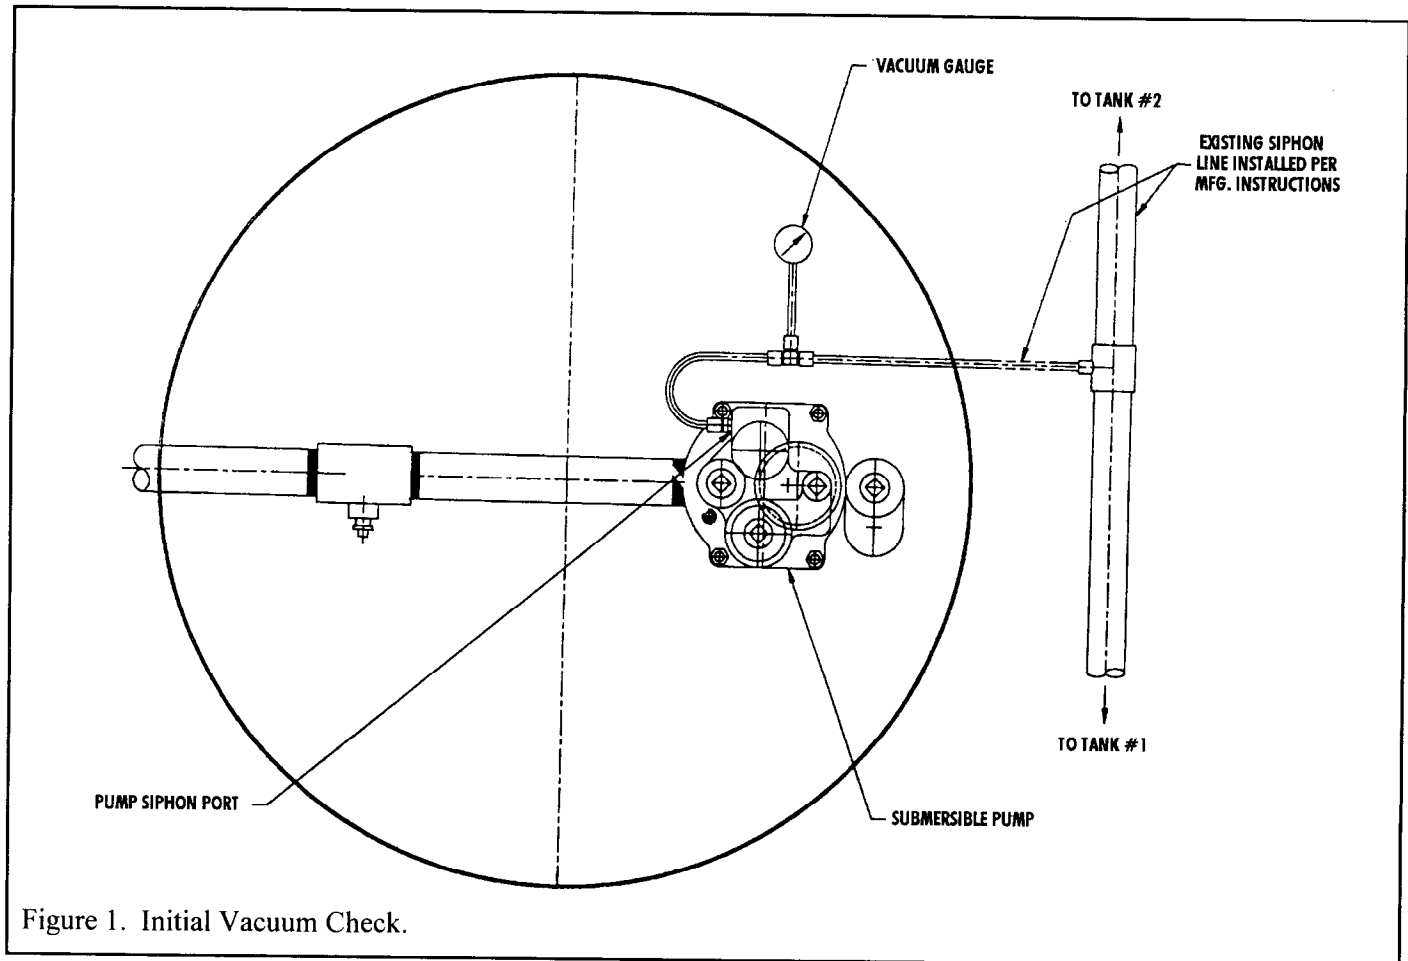

Figure 1. Initial Vacuum Check.
1. Install a "tee" fitting into the vacuum line (Figure 1 on page 2). Attach a vacuum gauge that reads in units of inches of mercury.